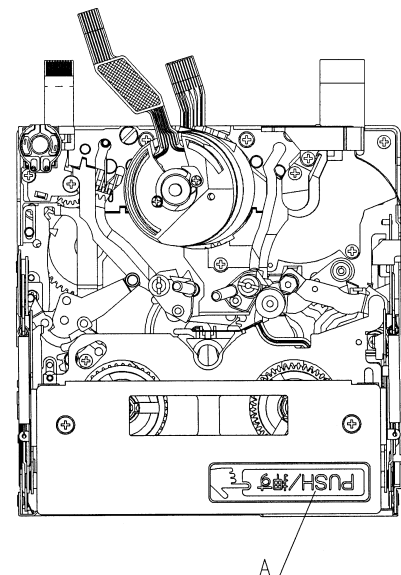

Fig. 2
- When installing the cassette controller, push the portion indicated by "A" in Fig.2. Do not push other portions.